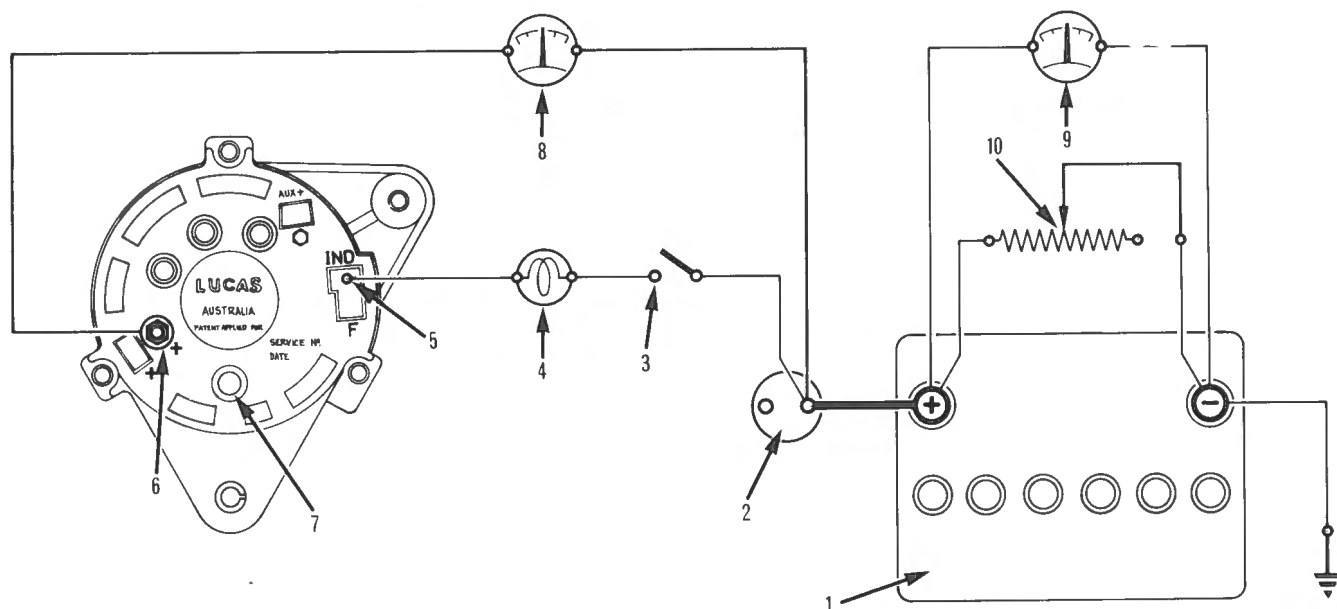

Fig. S-9
- (a) Connect an external test circuit as shown in Fig. S-9.
- 1 Connect a low range voltmeter between the alternator positive terminal and the battery positive terminal. Fig. S-9. Switch on the headlamps, start the engine and increase speed to 6000 alternator rpm. Note the voltmeter reading.
- 2 Transfer the voltmeter connections to the alternator body and battery negative terminal Fig. S-9 and note the voltmeter reading. Should the voltmeter reading exceed 0.5 volt on the positive side or 0.25 volt on the negative side, there is a high resistance in the charging circuit which must be located and rectified.